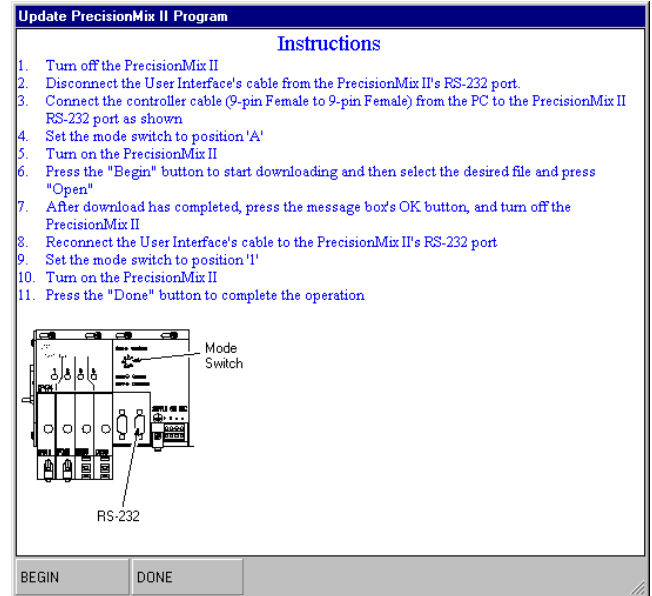

Fig. 13.30
2. An Instructions window to Update PrecisionMix II Program will appear. See Fig. 13.30.
6. Press the BEGIN button in the Instructions window to begin the update. See Fig. 13.30.